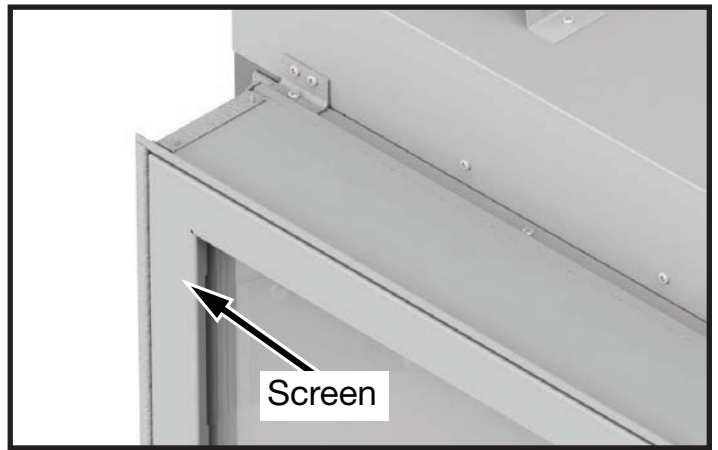

Figure 19: Safety barrier screen.
2. Remove the safety barrier screen (Figure 19) and remove the decorative window trim.